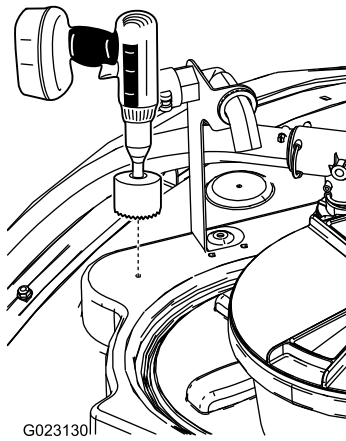

Figure 14
1. Locate the forward location on the top of the tank as shown in Figure 14.
2. Use a 9 cm (3-5/8 inch) hole saw to drill a hole at the drill mark (Figure 14).